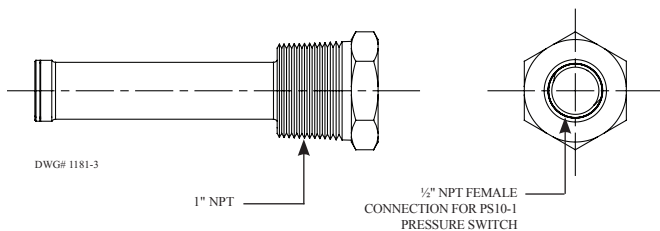

Fig. 4 Corrosion Coupon/Probe Installation Diagram
4. Install the Coupon Holder Assemblies-quantity (2) in the recommended 1" NPT outlet fitting on the coupon rack assembly, as indicated in Figure 4 or the label on the coupon rack assembly.